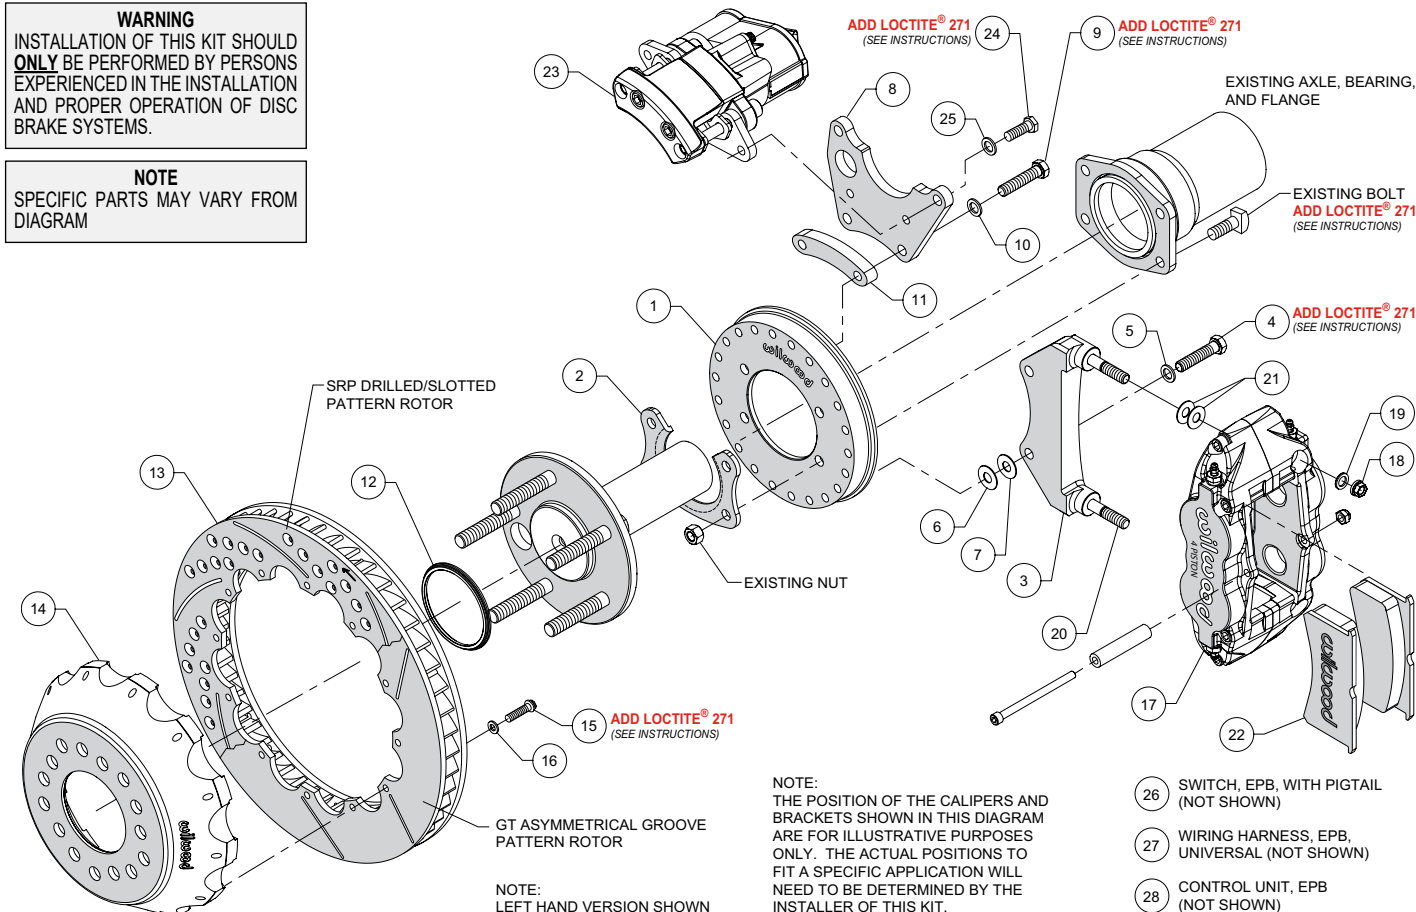
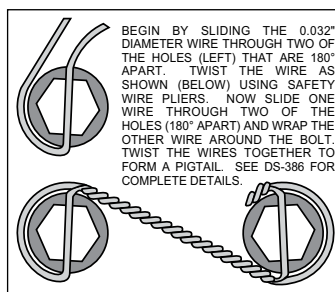

Figure 1. Typical Installation Configuration
Figure 5. Safety Wire Diagram
(numbers in parenthesis refer to the parts list, and Figure 1 on the preceding pages):
- Orient the backing plate (1) as shown in Figure 1 and Photo 1, and slide it onto the axle housing flange. Ensure the backing plate fits flush against the axle housing flange. Reinstall the axle into the axle housing.
- Install the bearing retainer (2) with the opening pointing upward and the lip facing inward (toward the bearing), as shown in Figures 1 and 4, and Photo 2. Secure retainer and backing plate to the axle housing flange using the Original Equipment Manufacturer (OEM) bolts and nuts, Figure 1 and Photo 3. Apply red *Loctite*® 271 to the OEM bolt threads and torque to OEM specifications.
- Start by determining the best location for the service caliper (17). This caliper is usually mounted in the 3:00 or 9:00 o'clock position, but may be rotated up or down approximately 45 degrees and still allow for proper bleeding, Photo 4. Orient the service caliper bracket (3) as shown in Figure 1 and Photo 5, and install to the backing plate (1) in the desired location using bolts (4) and washers (5). Temporarily tighten bolts. Next, mount the service caliper onto the bracket. Mount the service caliper using lock nuts (18) and washers (19), Figure 1. Temporarily tighten the lock nuts. Check that the caliper (including inlet fitting and hose) has sufficient clearance to all surrounding components through the full suspension travel. Relocate the caliper/bracket on the backing plate as needed to ensure proper clearance is achieved.
- Determine the best location for the EPB caliper (23). **NOTE:** *The EPB caliper motor extends farther inboard than the service caliper and therefore needs additional consideration when determining a mounting location with sufficient clearance.* In the example application shown in Photo 6, the EPB caliper has sufficient inboard clearance to the leaf spring. However, if the EPB caliper were mounted closer to the 12:00 o'clock position, the inner body of the vehicle would hit the caliper during full compression of the suspension.
•Orient the EPB caliper bracket (8) as shown in Figure 1 and Photo 7, and install to the backing plate (1) in the desired location using bolts (9), washers (10), and spacer (11). Temporarily tighten bolts. **NOTE:** The EPB bracket is reversible. In one direction the bracket will position the EPB caliper closer to the service caliper, and vice versa if reversing the bracket. Next, mount the EPB caliper (23) to the bracket using bolts (24) and washers (25). Temporarily tighten bolts. **NOTE:** EPB calipers are Left and Right handed, however they can be used on either side of the vehicle to best suit your specific application. Check that the EPB caliper (including wiring harness connector) has sufficient clearance to all surrounding components through the full suspension travel. Relocate the EPB caliper/bracket on the backing plate as needed to ensure proper clearance is achieved.
•Once the caliper positions have been determined, remove both the service (17) and EPB (23) calipers, leaving both brackets in place on the backing plate. For the EPB bracket, remove the bolts one at a time, apply red *Loctite*® 271 to the threads, and torque to 35 ft-lb. The service caliper bracket will be final installed after shimming is determined.
•Orient the rotor (13) and the hat (14) as shown in Figure 1 and Photo 8. Attach rotor to hat using bolts (15) and washers (16). Apply red *Loctite*® 271 to the bolt threads and torque to 155 in-lb using a criss-cross pattern. For an added measure of security, the bolts may be safety wired using standard 0.032 inch diameter stainless steel safety wire as shown in Figure 5. Please refer to Wilwood's data sheet DS-386 (available at www.wilwood.com/Pdf/DataSheets/ds386.pdf) for complete safety wire installation instructions.
•Initially place two .035" thick shims (21) on each stud of the service caliper bracket (3), as shown in Figure 1 and Photo 10. Mount the caliper onto the bracket using lock nuts (18) and washers (19), Figure 1. Temporarily tighten the lock nuts and view the rotor through the top opening of the caliper. The rotor should be centered in the caliper, Photo 11. If not, adjust by adding or subtracting shims (6 and/or 7)) between the service caliper bracket (3) and the backing plate (1). Always use the same amount of shims on each of the two mounting bolts. Once the caliper alignment is correct, remove the bracket mounting bolts (4) one at a time, apply red *Loctite*® 271 to the threads, and torque bolts to 35 ft-lb.
- Mount the EPB caliper (23) onto the caliper mounting bracket (8) using bolts (24) and washers (25), Figure 1. Apply red *Loctite*® 271 to bolt threads, and torque to 30 ft-lb.
• **NOTE:** The service caliper (17) in this brake kit utilizes a 1/8-27 NPT pipe thread inlet. OEM rubber brake hoses generally cannot be adapted to Wilwood calipers. The preferred method is to use steel adapter fittings at the caliper, either straight, 45 or 90 degree (use PTFE tape on pipe threads of adapter fitting for proper sealing to caliper) and enough steel braided line to allow for full suspension travel. **Carefully route hoses to prevent contact with moving suspension, brake or wheel components.** **NOTE:** Wilwood hose kits are designed for use in many different vehicle applications and it is the installer's responsibility to properly route and ensure adequate clearance and retention for brake hose components. Wilwood offers universal brake flex line hose kits, domestic (3/8-24 IF) chassis fittings, order: